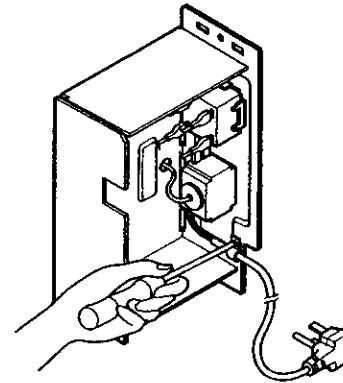

Figure 19
7. Remove a screw securing the clip with cord to the control board. (See Figure 19)